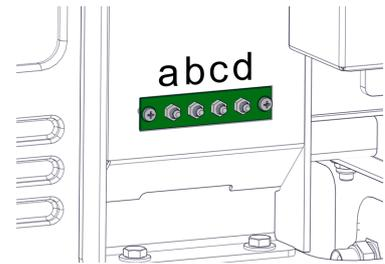

Figure 35 - Greasing Panel
1. Locate the greasing panel (Figure 35).